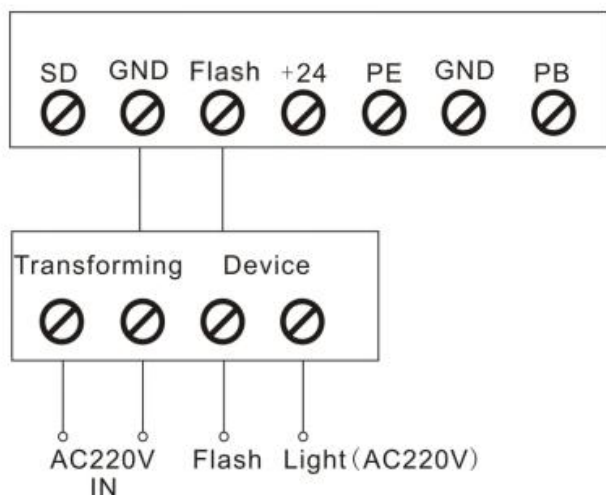
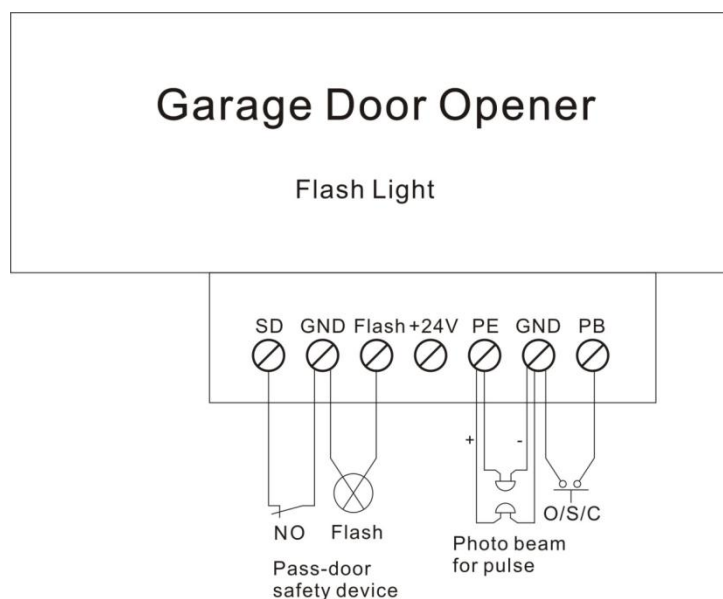

Figure 26
Figure 27
1. The O/S/C interfaces available. (Fig. 26, Fig. 27)
2. Flash light function. (Fig. 26, Fig. 27)
3. Pass door (SD) protection (Fig. 26, Fig. 27)